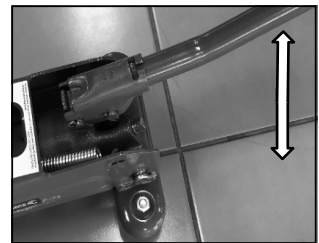

fig 6.
2. Rapidly pump the handle assembly 10 to 20 times to purge air from the hydraulic system [fig.6].